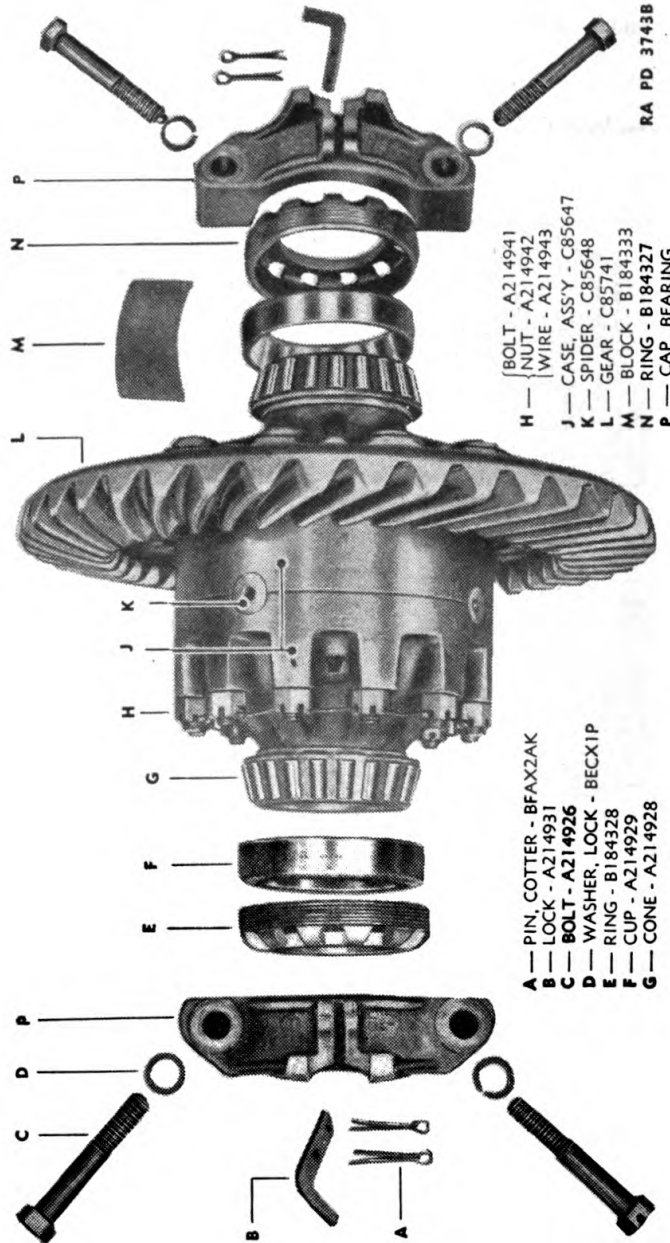

FIGURE 57.—Rear axle differential and ring gear details.
(3) Remove bevel gear thrust block—1-inch socket wrench, 1 $\frac{3}{8}$ -inch open end wrench. Loosen thrust block adjusting screw jam nut (A214938) and screw (A214937) and take out block (B184333).
(4) Remove adjusting rings— $\frac{7}{8}$ -inch socket wrench. Remove the four  $\frac{9}{16}$ -inch bearing cap screws and take off the bearing caps (B184327) and lock rings (B184328) (fig. 57).
(5) Remove differential assembly. Take off bearing cups (A214929) and lift assembly from carrier (fig. 57).